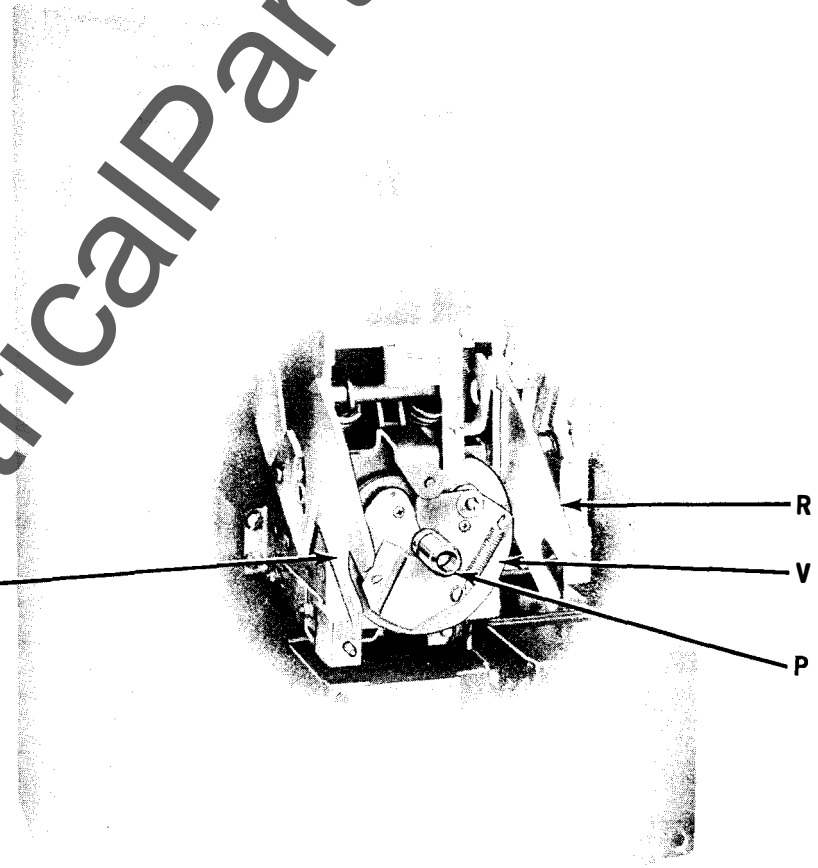
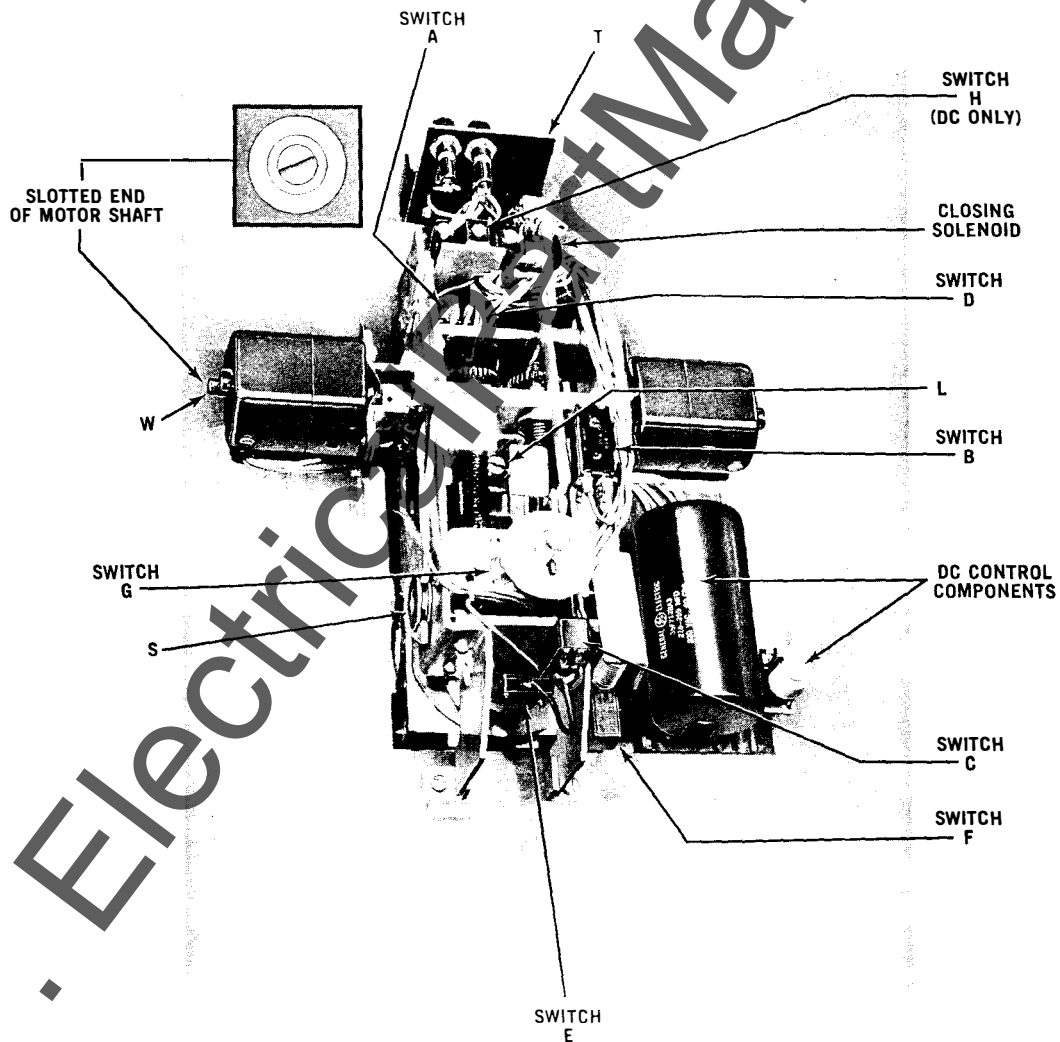

Figure 4
Figure 3
1. Unscrew inner cover retaining nut shown on Figure 3 (L).
1. Slide inner cover and power unit assembly on to breaker base and mechanism shown in Figure 4 taking care to assure correct lineup of handle shaft Figure 4 (P) and operating levers Figure 4 (R). Operating lever slots must engage in grooves in rollers. Figure 3 (S)
2. Tighten inner cover retaining nut shown in Figure 3 (L)
3. Slide outer cover on to unit taking care that terminal board support Figure 3 (T) slides into slots in cover.
Wiring diagram and identification of electrical components can be used as an aid to solving operational problems, should they arise. Unit is so interlocked that if manual charging cam, Fig. 4, (V) is out of position, or if handle lock release button is depressed, electrical charging or closing is prevented. If screw driven carriage is out of extreme downward position, it will be impossible to manually or electrically close breaker. Slots are provided in outer ends of motor shafts, Fig. 3 (W) to permit clockwise rotation of left motor shaft (counter-clockwise for right motor shaft) to move carriage to correct bottomed position. Turn shaft with screwdriver until no further motion of carriage is noted.